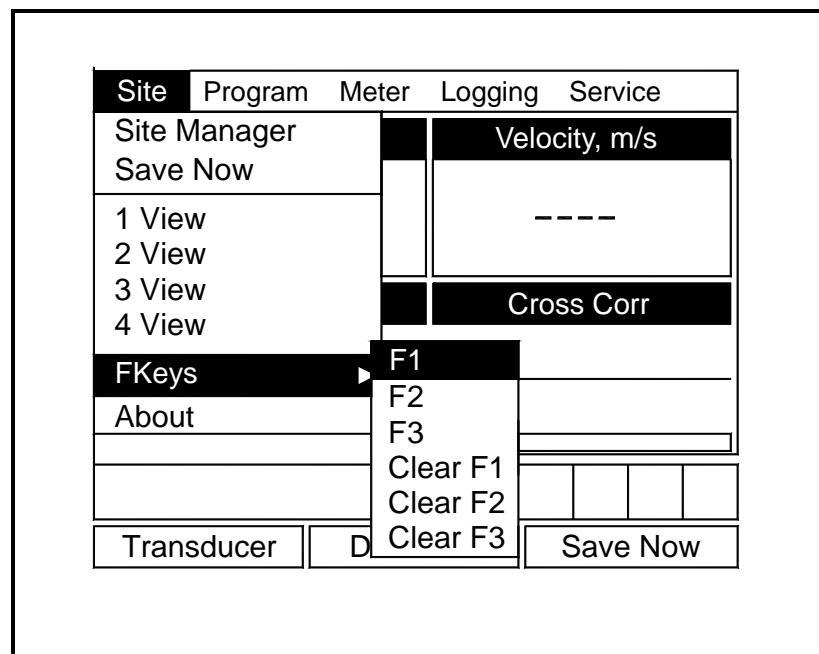

Figure 4-8: FKeys Menu
1. From the Site Menu (shown in Figure 4-6 on page 4-6), use the [▼] or [▲] arrow keys to move to the FKeys entry on the menu. Press [ENTER]. The screen now appears similar to Figure 4-8 below.
1. From the Site Menu (shown in Figure 4-6 on page 4-6), use the [▼] or [▲] arrow keys to move to the FKeys entry on the menu. Press [ENTER]. The screen now appears similar to Figure 4-8 on page 4-8.